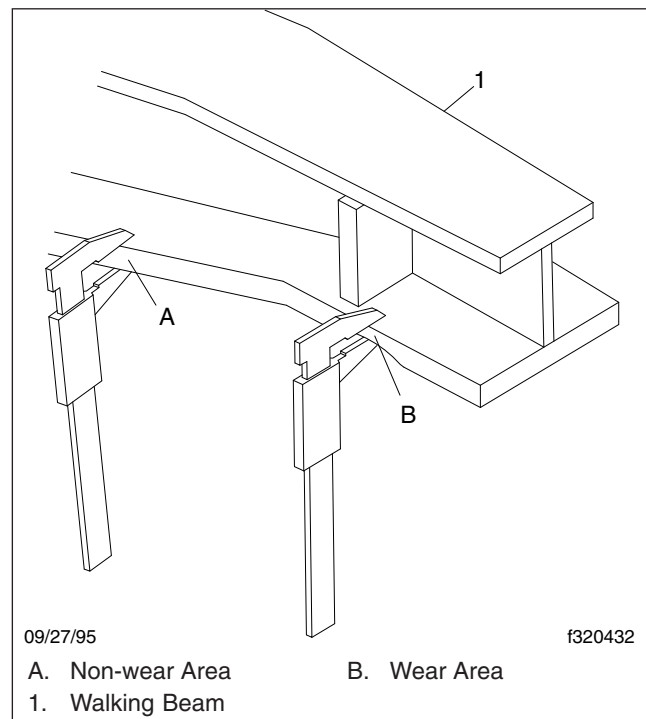

Fig. 7, Walking Beam End Wear Thickness
4. Manipulate the walking beam so that a micrometer, vernier, or dial caliper can be used to determine the wear area thickness on the bottom face. See **Fig. 7**. Measurements should be taken a minimum of 1/2 inch (13 mm) from the beam flange edges to eliminate any edge wear that may have occurred. Subtract the wear area thickness from the nonwear area to determine the amount of wear.